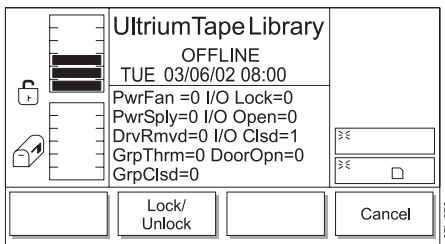

Figure 4-136. Sensor Dialog
4. Press the button below the **Sensors** softkey. The Sensor Dialog displays (see Figure 4-136).